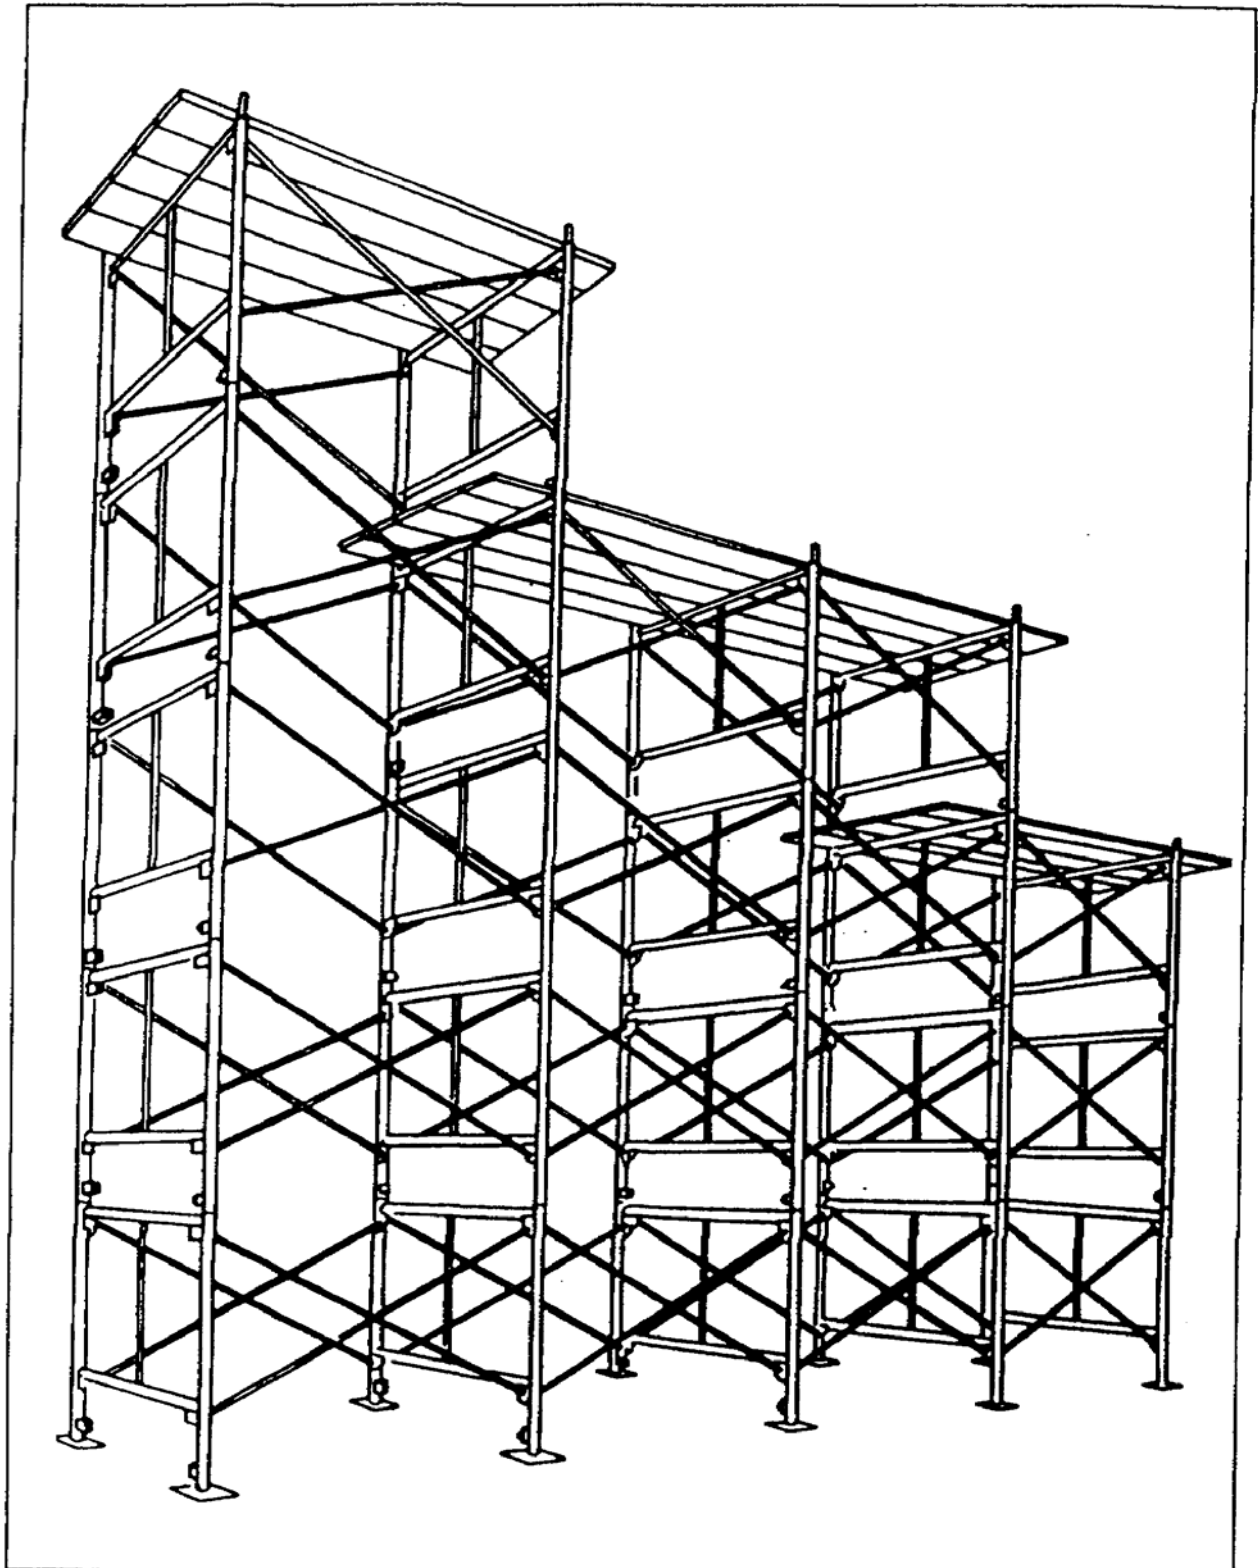
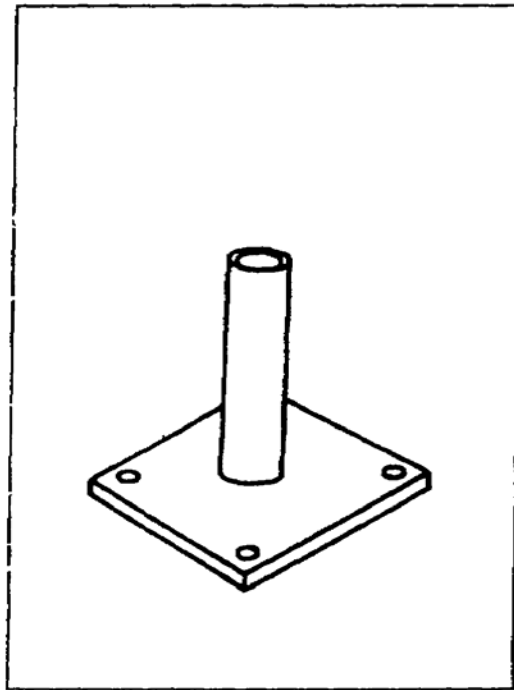

Figure 4-14. Independent scaffold topped with platforms
Figure 4-15. Footing plate
b. Independent Scaffold (Figure 4-14, page 4-10). A double-pole, built-up scaffold (metal or wood) is completely independent of the main structure. Several types of patented independent scaffold are available for simple and rapid erection. Brace the scaffold uprights (scaffold legs) with diagonal members, and cover the working level with a planking platform. All bracing must form triangles, and the base of each column requires adequate footing plates (Figure 4-15, page 4-11) for the ground-bearing area. If the ground is fairly even, secure the footing plate by bolting it to a 2-by-8 board that is placed on the ground.